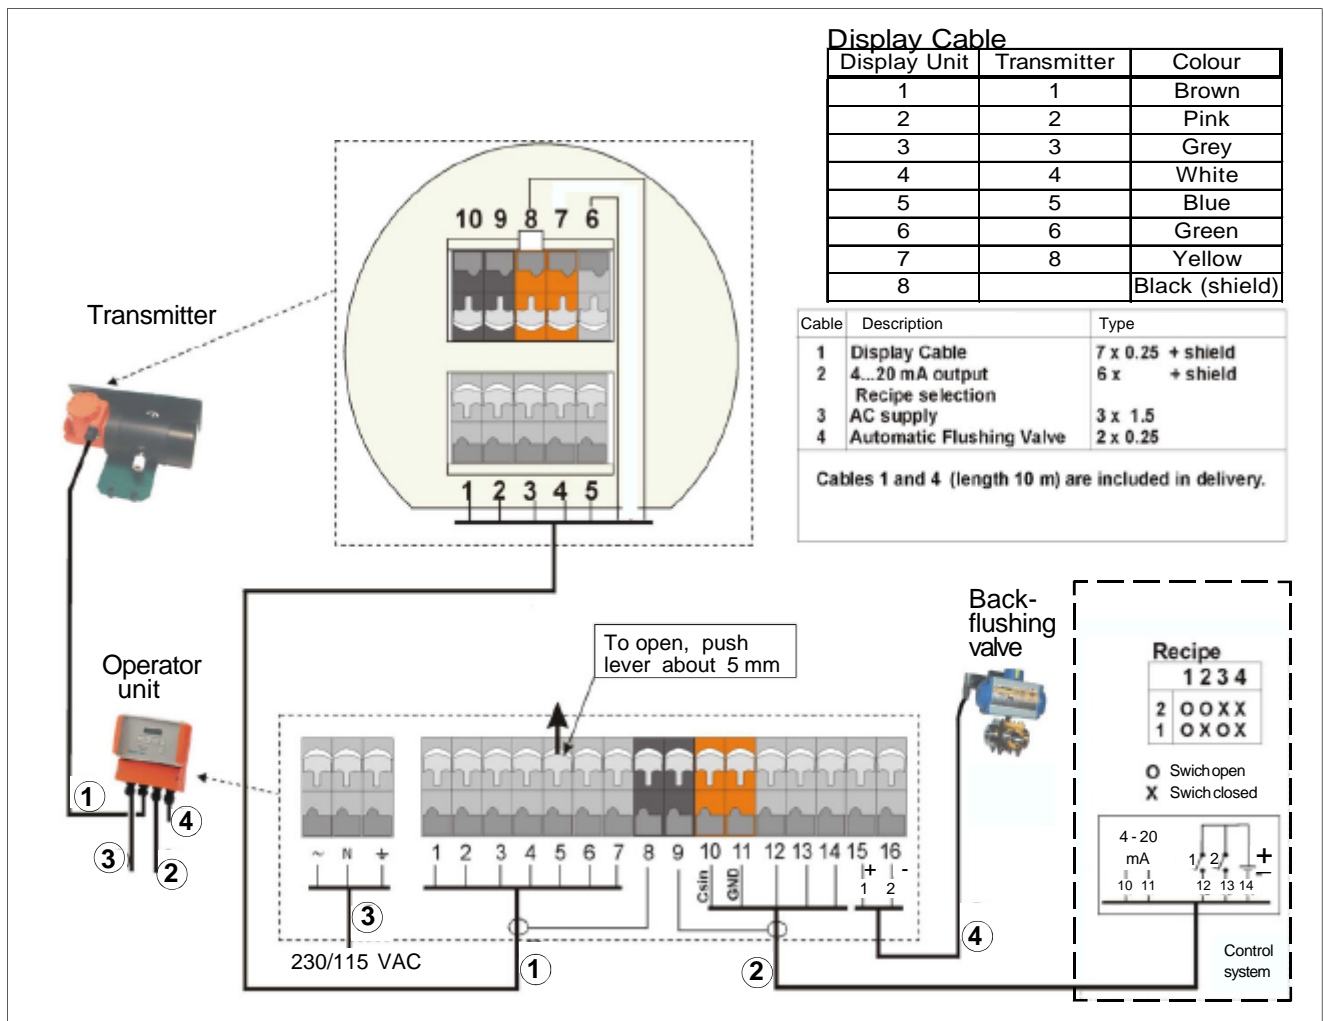
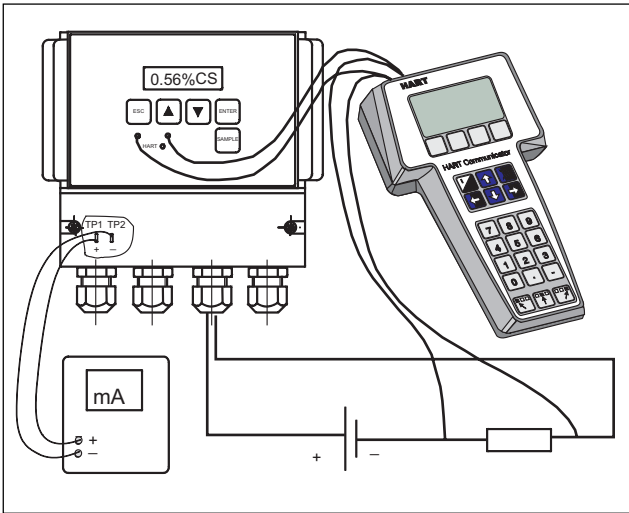

Fig. 3.1 Wiring diagram
Fig. 3.2. Test and HART® connections of SmartLC.
The electric connections are shown in Fig. 3.2, chapter 3. Connect the backflushing valve and the sample line. Install the backflushing valve to the sample line, to the outlet side of SmartLC transmitter. Choose the place so that there are no easily clogged sections (e.g. tight bends) in the sample line between the valve and the outlet to process.
The connections of the SmartLC transmitter are illustrated in Fig. 3.1. The device requires a 230/115 VAC power supply. In the current loop the SmartLC functions as an active transmitter, i.e. no power supply is connected to the loop. If the transmitter is not connected to a system or other similar load (e.g. plotter), short terminals 10 and 11 using a wire or max. 600 W resistor. Make all connections to the current and digital input terminals located in the connection box of the operating unit. Fig. 3.2 shows the connection of a test meter and the 275 HART® communicator. With the HART® communicator, the minimum load resistance is 250 W.
- Insert the connection cable (1) through the transmitter's inlet bushing, and connect it as shown in Fig. 3.2.
- Insert the AC-supply cable (3) through bushing (3), the system cable (2) through bushing (2). If the remote recipe selection (option) is used, the signals are transmitted by cable 2. Leave an extra loop of cable outside the bushings as reserve and to conduct drain water out.
- Insert the backflushing unit cable (4) through bushing (4).
- Make the connections as shown in Fig. 3.2, and connect the groundings according to the control system instructions.
Fig. 3.2 shows the digital input settings for all four recipes. X = DC-power ($24\text{ V} \pm 20\%$) is connected between DICOM (terminal 14) and the digital input. If none of the digital inputs are connected, recipe 1 will be in use.